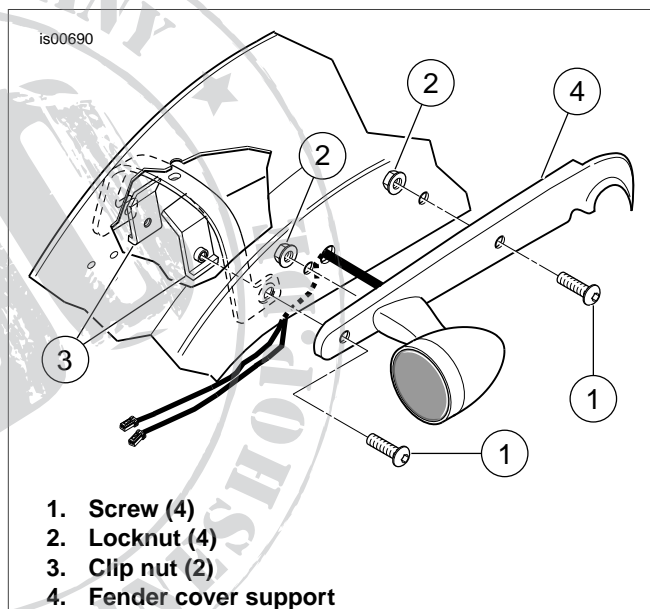
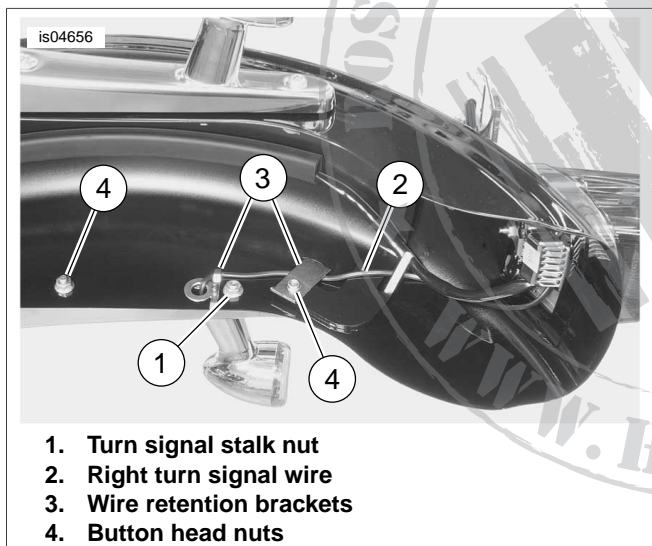

Figure 1. Rear Fender Support Removal
Figure 3. Rear Turn Signal Wire Routing
3. See Figure 1. With rear fender and frame securely supported, back out upper mounting screw (1) enough to allow the shock stud cover to slide outward so the fender support cover (4) can be removed.
6. See Figure 3. Remove the rear turn signal stalk nut (1) and the button head screw nuts (4) from inside the rear fender.
7. Disengage the turn signal wiring harness from wire retention brackets (3). Push the turn signal wiring terminal through retention bracket hole under the fender.
8. See Figure 1. Remove button head screws (4) that secure fender support cover to frame. Retain hardware for later installation.
5. See Figure 3. Insert the two black turn signal wires into opposite ends of a butt splice connector. Insert the two violet wires into opposite ends of a second butt splice connector.